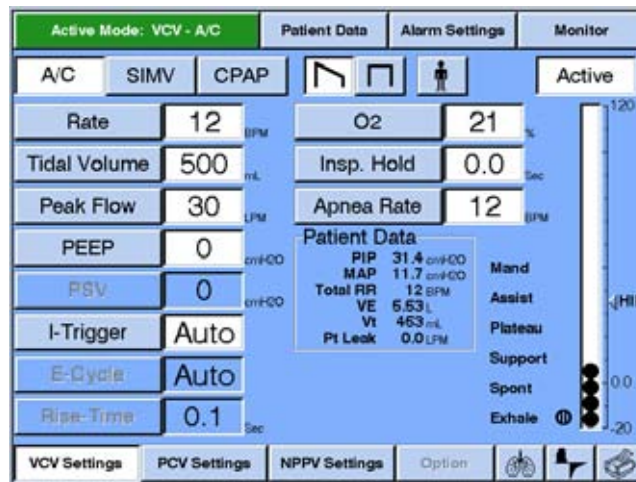

Figure 13-75: Settings Window with Auto-Trak Selected
3. Touch the Accept button. The ventilator does not begin using Auto-Trak until you touch the Accept button. The Settings screen now displays Auto as the I-Trigger and E-Trigger settings (Figure 13-75).